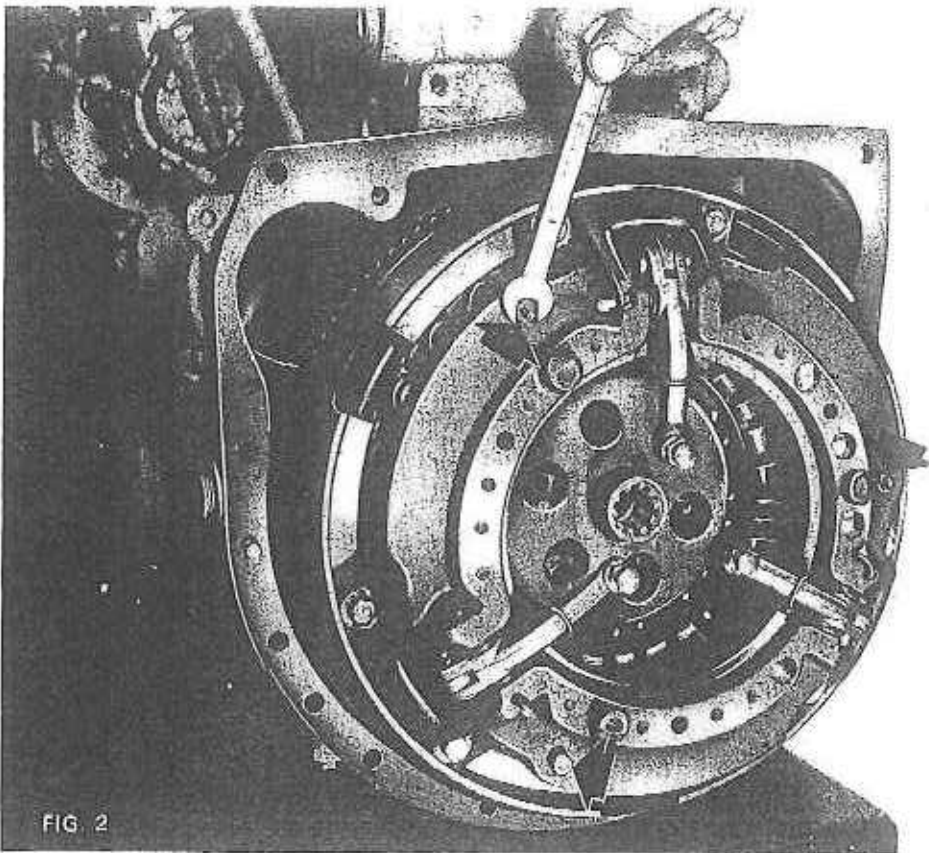

FIG. 2
2. (Fig. 2) Fit three slave bolts 1/4" U.N.F. by 2 1/8" (53.98 mm) to the three equispaced holes in the clutch cover plate.